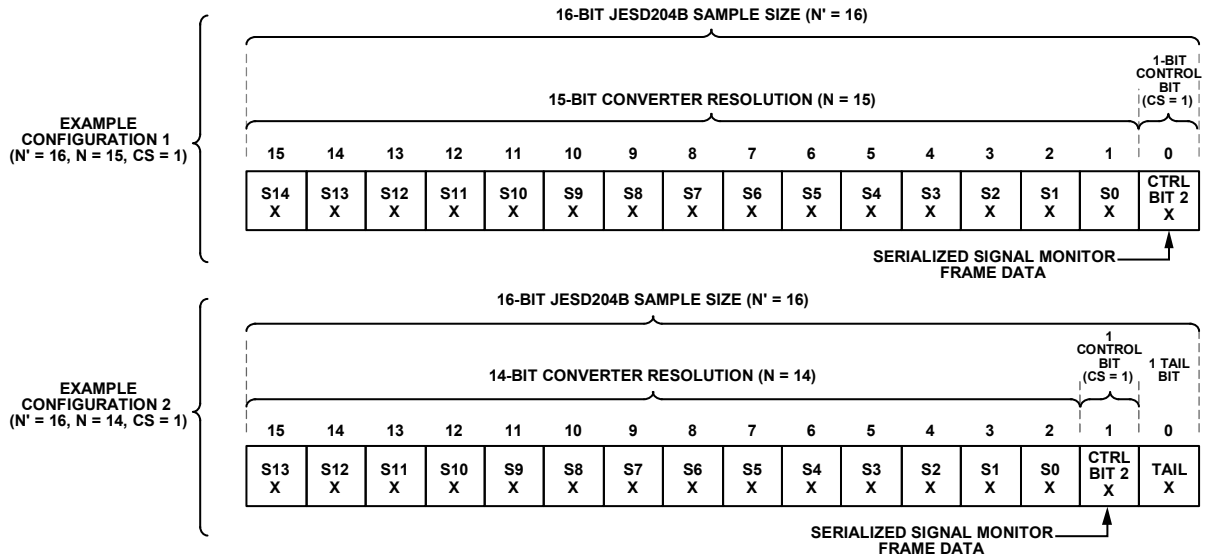

Figure 57. Signal Monitor Control Bit Locations
The signal monitor data can also be serialized and sent over the JESD204B interface as control bits. These control bits must be deserialized from the samples to reconstruct the statistical data. To enable the signal control monitor function, set Bit 0 of Register 0x0279 and Bit 1 of Register 0x027A. Figure 57 shows two different example configurations for the signal monitor control bit locations inside the JESD204B samples. A maximum of three control bits can be inserted into the JESD204B samples. However, only one control bit is required for the signal monitor. Control bits are inserted from MSB to LSB. If only one control bit is to be inserted (number of control bits per sample (CS) = 1), only the most significant control bit is used (see the Example Configuration 1 and the Example Configuration 2 in Figure 57). To select the SPORT over JESD204B (signal monitor) option, program Register 0x0559, and Register 0x058F accordingly. See Table 23 for more information on setting these bits.